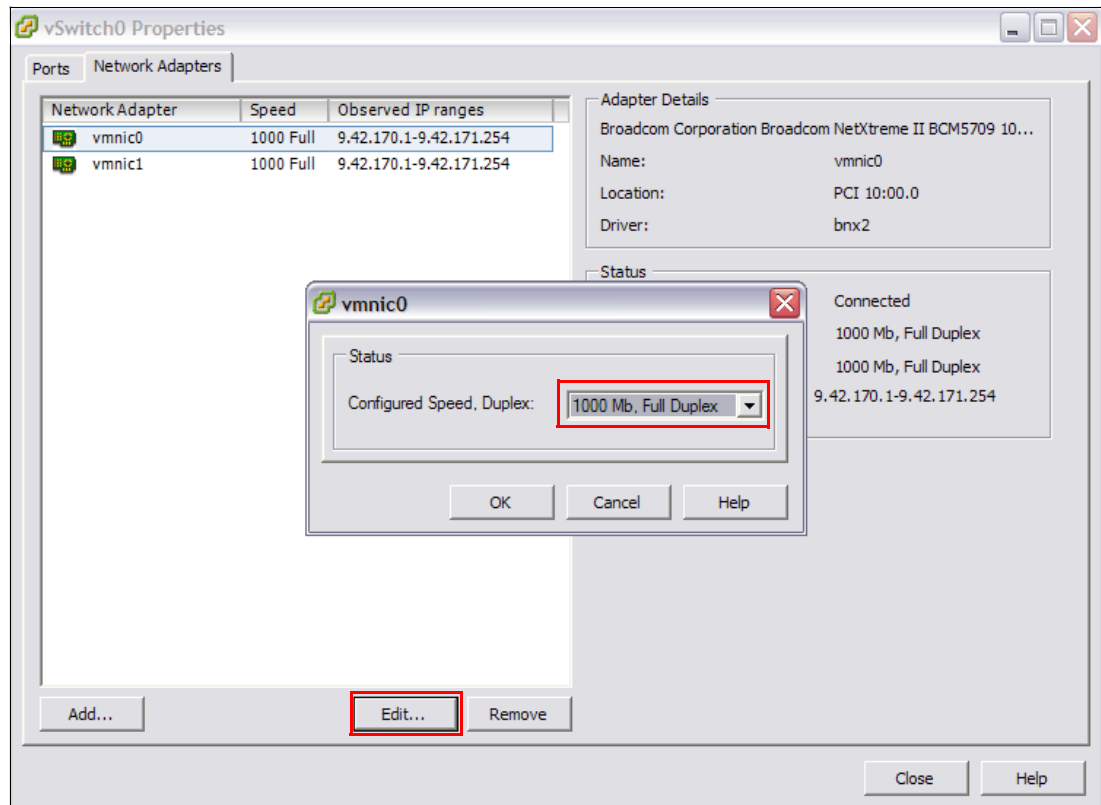

Figure 22-67 Setting Network Speed
4. You are presented with the main vSwitch0 Properties window. Highlight the first adapter, click **Edit**, and set the Configured Speed, Duplex to 100 Mbps, Full Duplex or 1000 Mbps, as shown in Figure 22-67 on page 699. Click **OK**.